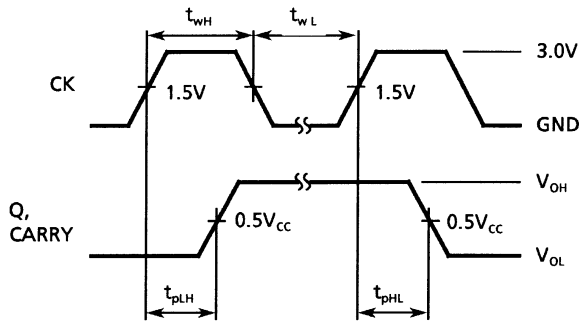

Figure 1
| Minimum pulse width (CK) | t _W (L) t _W (H) | Figure 1 | 5.0 ± 0.5 | 5.0 | 5.0 | ns |
| Propagation delay time (CK-Q) | t _{pLH} t _{pHL} | Figure 1 | 5.0 ± 0.5 | — | 7.2 | 10.5 | 1.0 | 12.0 | ns |
| Propagation delay time (CK-CARRY, count mode) | t _{pLH} t _{pHL} | Figure 1 | 5.0 ± 0.5 | — | 8.5 | 13.0 | 1.0 | 15.0 | ns |